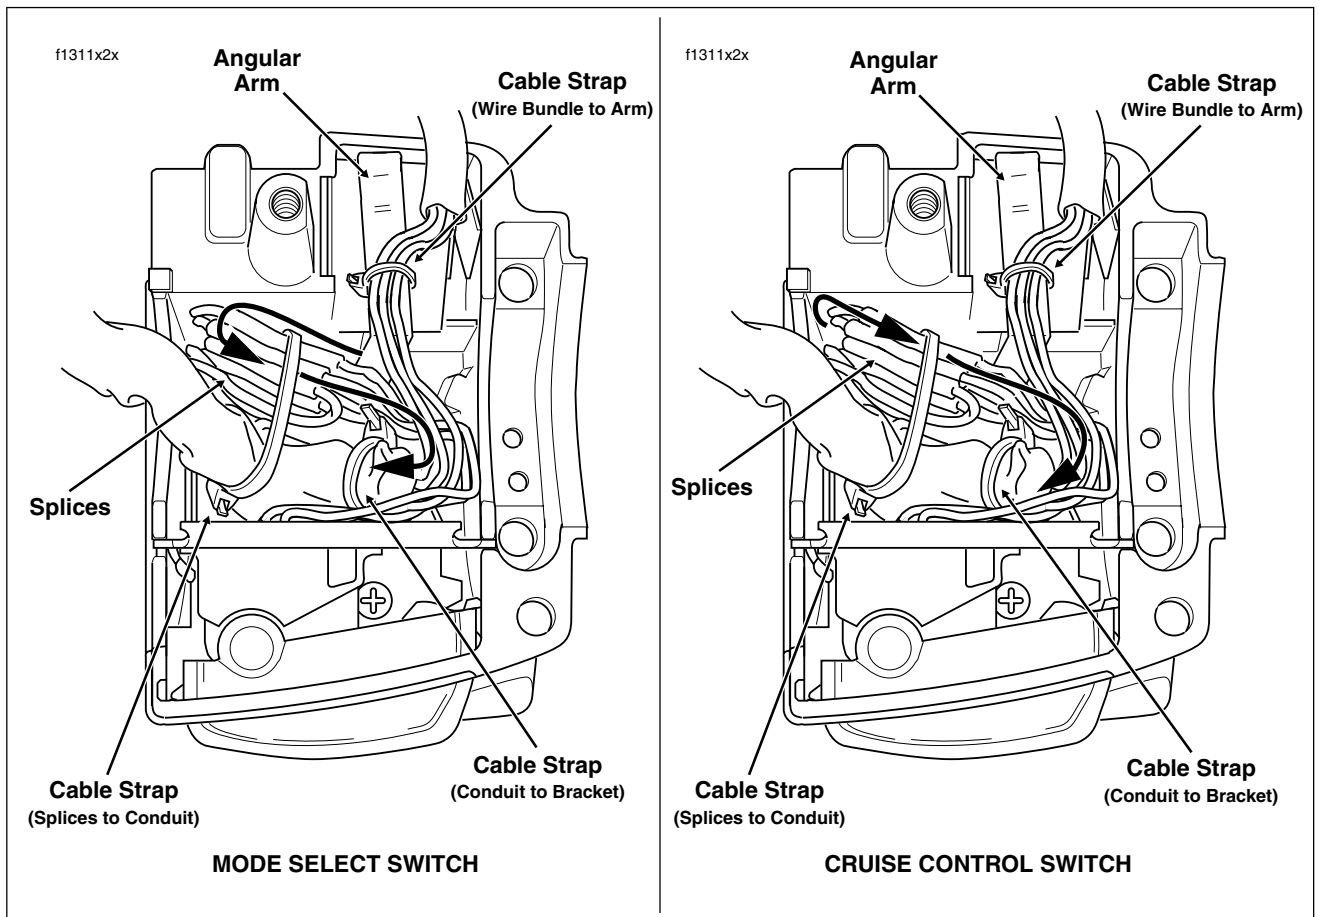

Figure 8-106. Lower Right Handlebar Switch Housing (With Splices) - Classic/Ultra Models
4. Loop switch wires so that spliced lengths are positioned as shown in Figure 8-106.